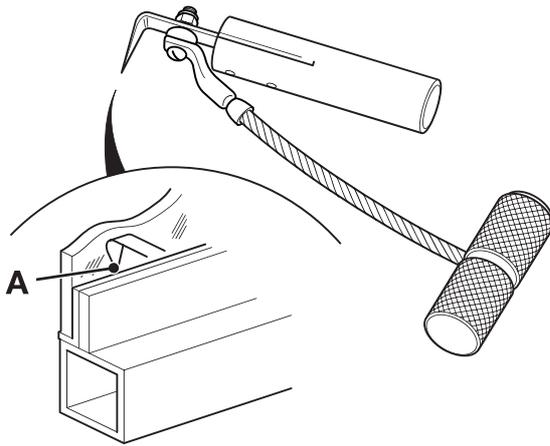

Fig 3. Cut-out Knife
- c Cut-out Knife. → Fig 3. \(□ B-3\). The cut-out knife can be used as a left handed or right handed tool.